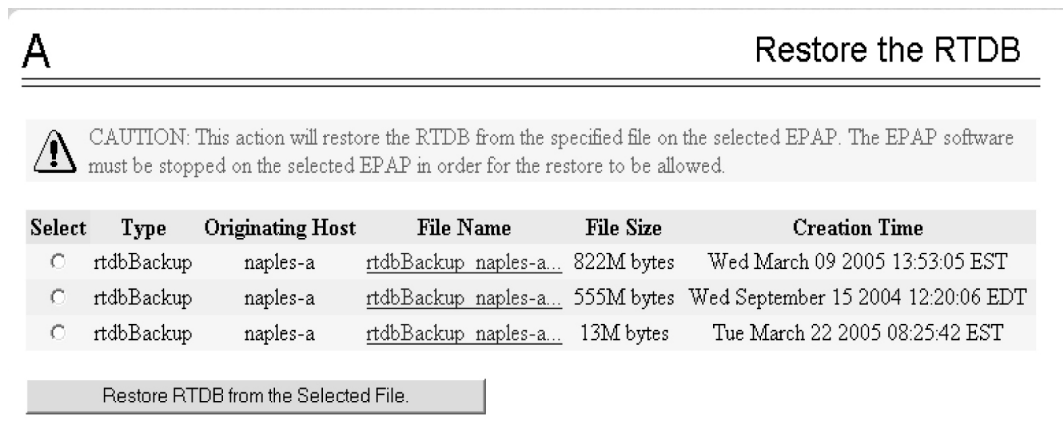

Figure 18: Restoring the RTDB
6. Select **RTDB>Maintenance>Restore RTDB**. The screen shown in Figure 18: Restoring the RTDB displays:
- On the screen shown in Figure 18: Restoring the RTDB, select the file that was transferred in Figure 18: Restoring the RTDB. Click **Restore the RTDB from the Selected File**.